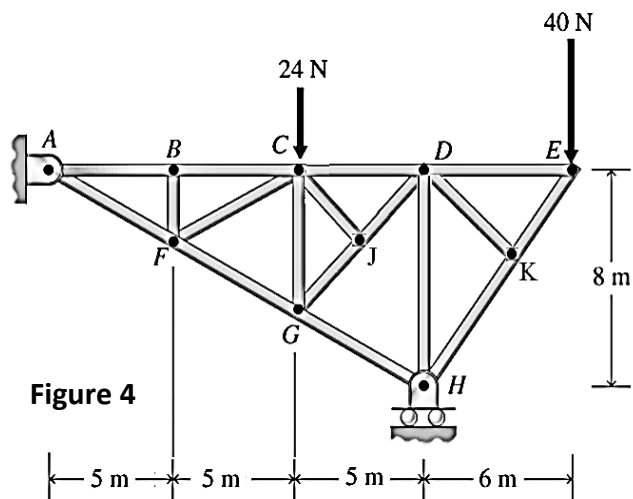

Figure 4
4. In the truss shown in figure 4 find the forces in the all the vertical members i.e. BF, CG, DH. Member CJ is perpendicular to the line GJD, while member DK is perpendicular to the line HKE (10)